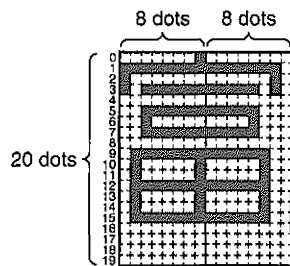

Figure 5.3
- 2) For 2 characters such as kanji: Create with 15x20 dots (Refer to Figure 5.3)